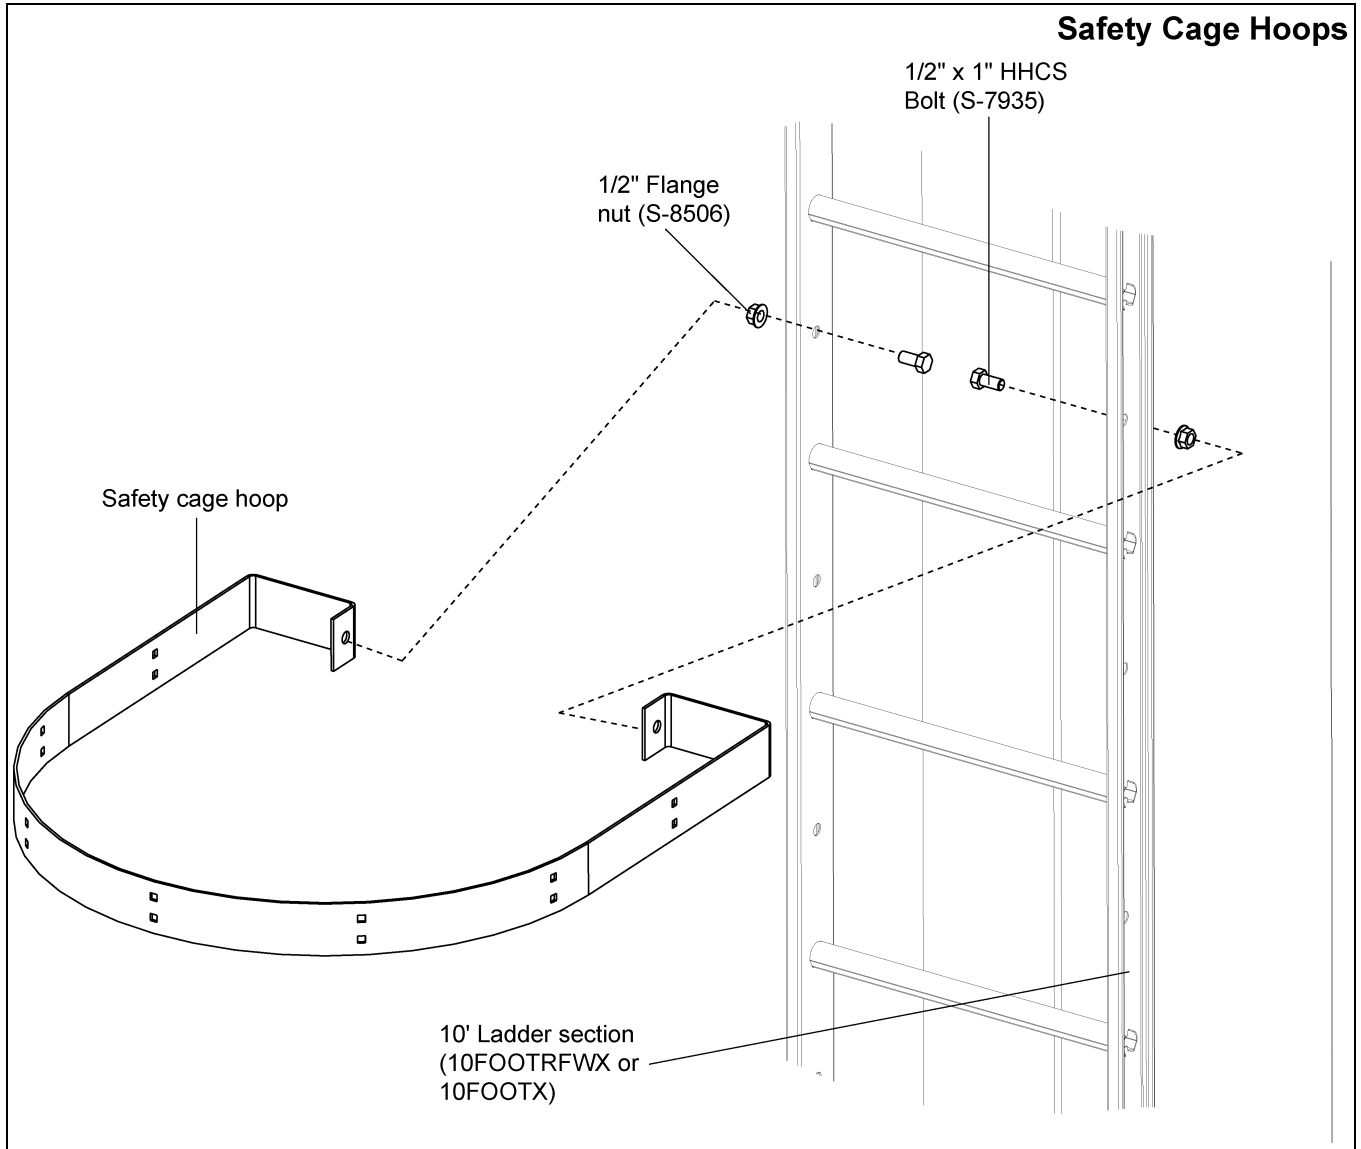

Figure 6P
2. Attach safety cage hoops to ladder using 1/2" x 1" bolts and nuts. (See Figure 6P.)